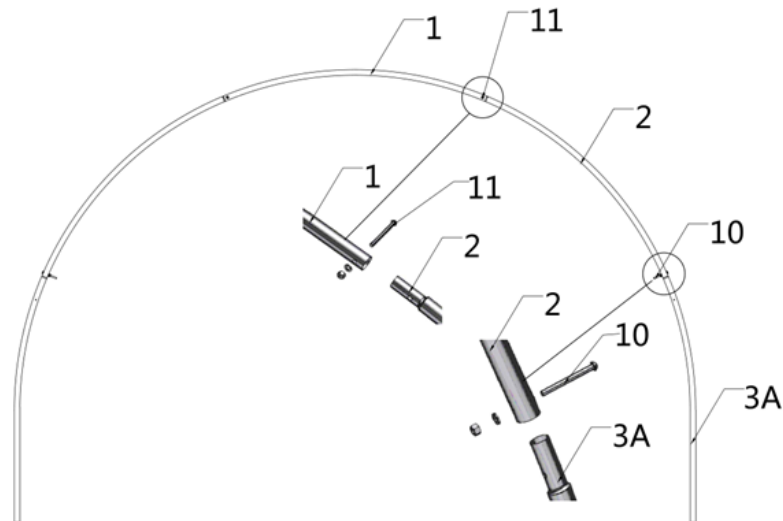

Figure 1
- The building includes 4 trusses : (1) Front truss, (1) rear truss, and (2) middle trusses. The front truss fabric panels and the top fabric (#15) have been connected as a whole.
- Parts used to install the front truss and rear truss in this step (refer to figure 1) :